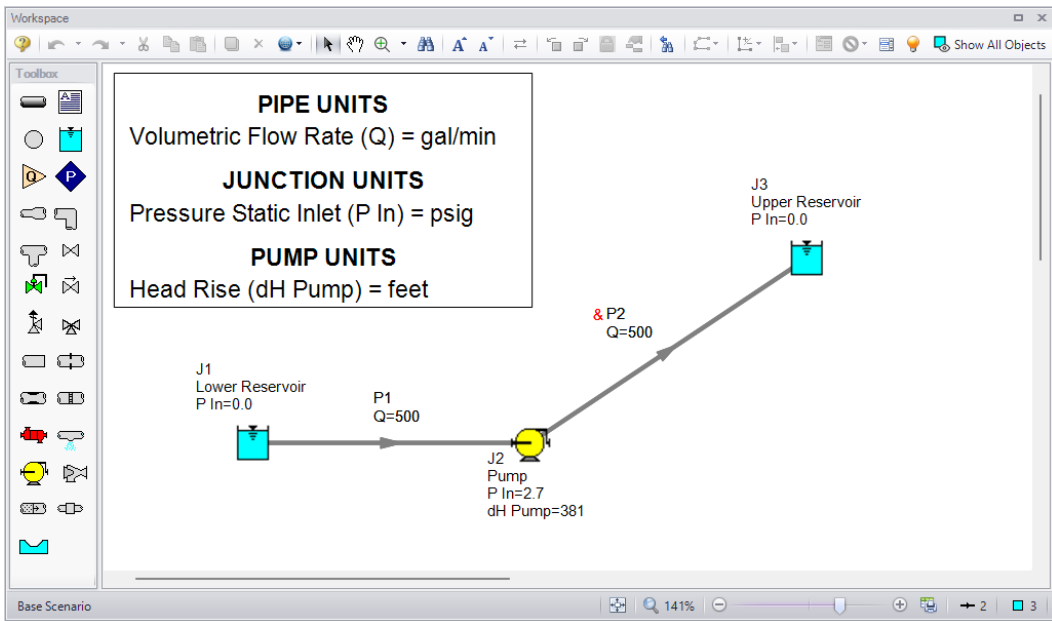

Figure 2.28 Results are superimposed on the model layout via Workspace Layers
- **Add additional clarity by repositioning the labels and adding a legend.** It is common for the text on the Workspace Layers to overlap with objects when first generated. Labels can be dragged to a new area or a smaller font can be selected using the Font Decrease icon on the Workspace Toolbar. Parameter units can be consolidated in a legend which can be added via the Global Layer Settings. In the Layers Toolbar, click the double gear icon to open the Global Layer Settings. Then, enable the checkbox for Show Units in Legend. The result of these adjustments is shown in Figure 2.28.